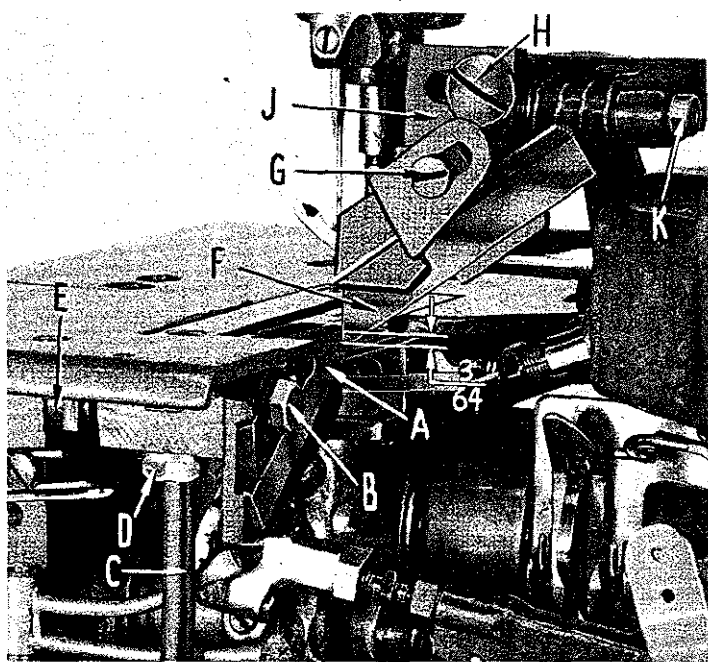

Fig. 12
Turn the handwheel in operating direction until the upper knife arm is in its lowest position. The cutting edge of the upper knife (F, Fig. 12) should overlap the cutting edge of the lower knife by about  $1/64$  inch. Loosen clamp screw (G) to adjust upper knife. Move knife to the left to lower it or to the right to raise it. Tighten clamp screw. To set the spring tension on the upper knife, loosen screw (H), move knife holder block (J) to the left, and while holding it in this position, push knife guide collar shaft (K) to the right to increase spring tension on upper knife and tighten screw (H). Turn handwheel in operating direction until the upper knife is at its highest point of travel, and at this point, the pilot of the upper knife should overlap the lower knife about  $3/64$  inch (Fig. 12).
The lower knife (A, Fig. 12) should be set so that its cutting edge is even with the top surface of the throat plate. Use a steel scale to get a parallel setting and when knife is at the right